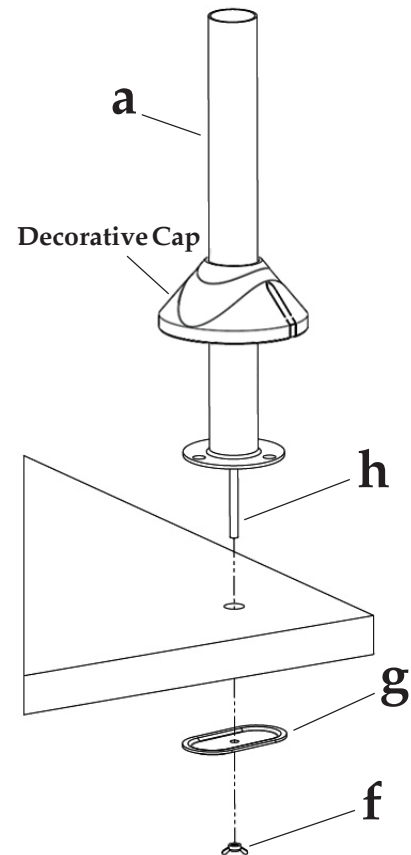

Figure 4
3. Place the Tube Support on the mounting surface and secure it using the Grommet Plate (g) and Wing Nut (f), see Figure 4.
4. Install the Decorative Cap over the Tube Support, see Figure 4. This step is optional. The Decorative Cap covers the mounting surface to provide a cleaner installation.